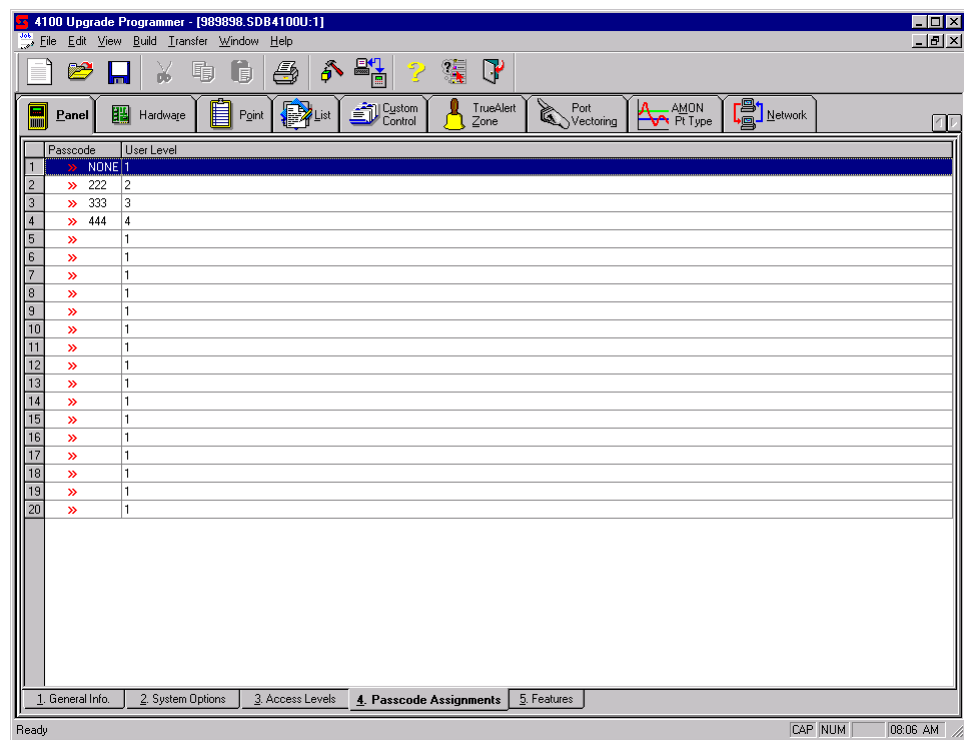

Figure 4-5. Passcodes Screen
- Click on the Passcodes Tab at the bottom of the programmer. A screen similar to the one shown in Figure 4-5 appears.